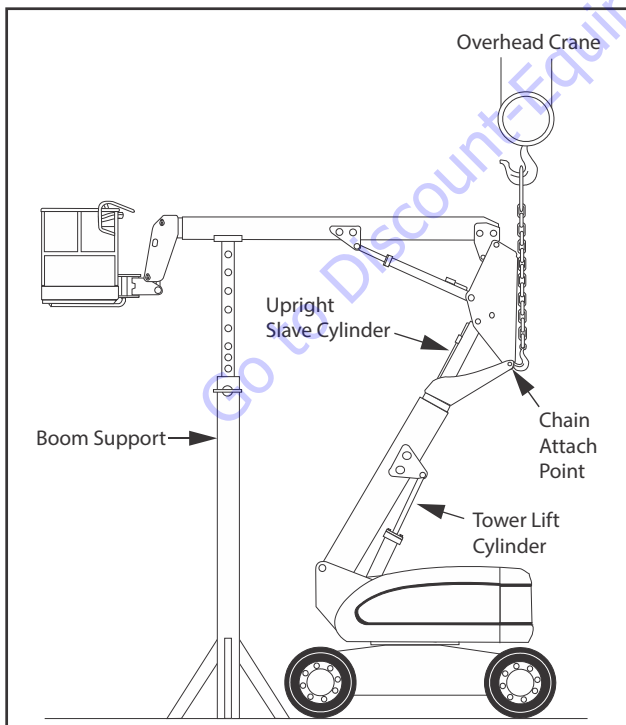

Figure 5-6. Boom Positioning and Support, Cylinder Repair
2. Position and support main boom as shown in Figure 5-6. Boom Positioning and Support, Cylinder Repair.
3. Remove bolt and retaining pin from leveling cylinder to upright pin (1).
4. Support upper boom assembly with overhead crane. Raise boom until tension is released from cylinder pin (1).
Refer to Figure 5-6. Boom Positioning and Support, Cylinder Repair.